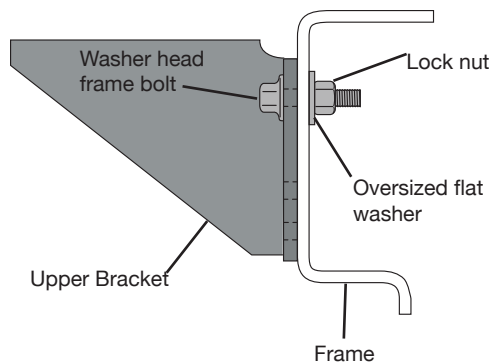

fig. 11
3. Except for Dodge vehicles, loosely install a washer-head frame bolt, oversized flat washer, and lock nut (fig. 11).